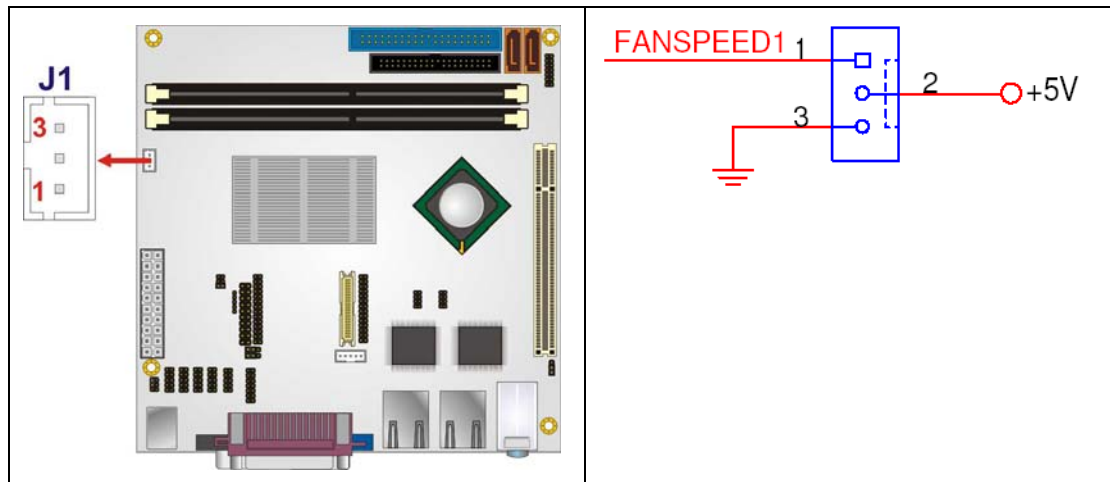

Figure 4-4: +5V Fan Connector Location
- CN Location:** See Figure 4-4